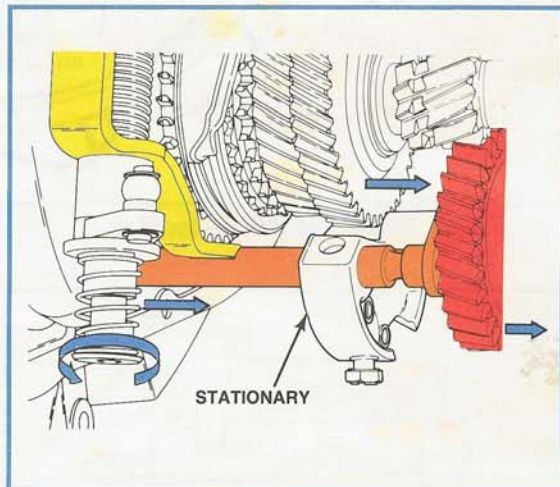

Figure 1-41, Reverse Idler Gear Movement.
- The pivoting lever pushes the reverse idler gear shift rail (with its forked end attached to the reverse idler gear) left. This causes the idler gear (already in mesh with the input shaft reverse gear) to slide into mesh with the output shaft reverse gear (Figure 1-41).